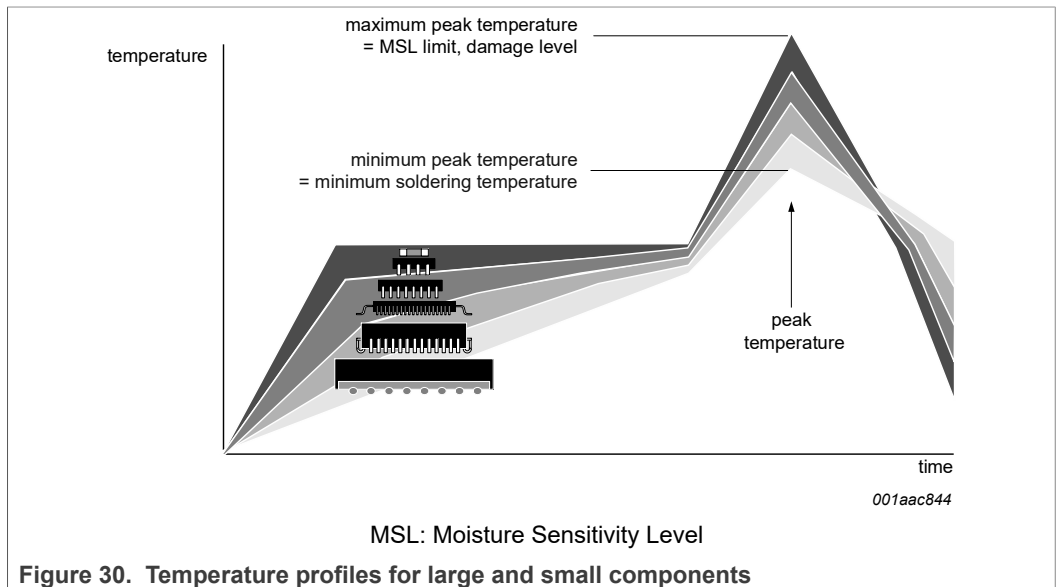

Figure 30. Temperature profiles for large and small components
- Lead-free versus SnPb soldering; note that a lead-free reflow process usually leads to higher minimum peak temperatures (see Figure 30) than a SnPb process, thus reducing the process window
Studies have shown that small packages reach higher temperatures during reflow soldering, see Figure 30.